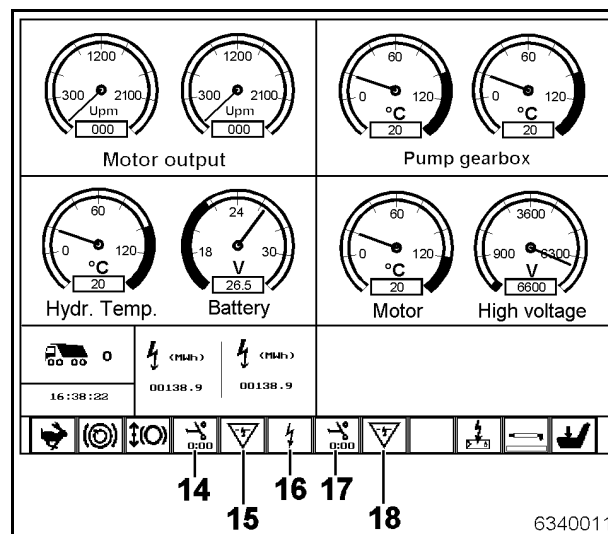

Fig. 2-58:
- Check telltales (14, 16 and 17, Fig. 2-58:), they must lit up in green colour. If so, electric motors can be switched on one after the other (see: "Switching the electric motors on").
If telltales didn't lit up in green colour, BCS has detected critical operating conditions or faults which prohibit starting the electric motors. BCS indicates this case with telltales (for instance 15, 16 and 18, Fig. 2-58:) as well as by displaying corresponding text.